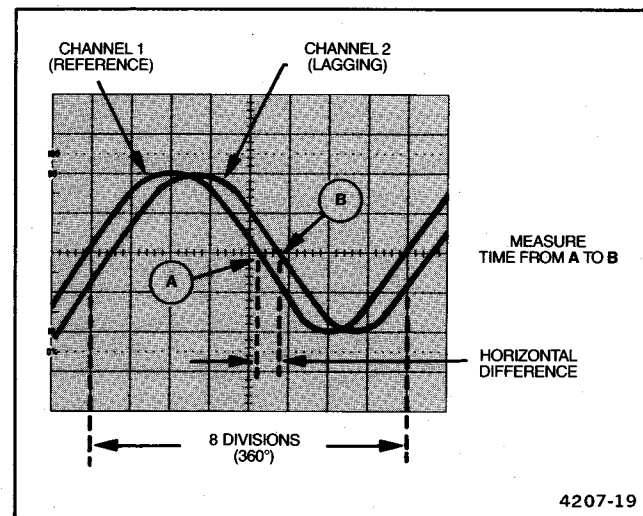
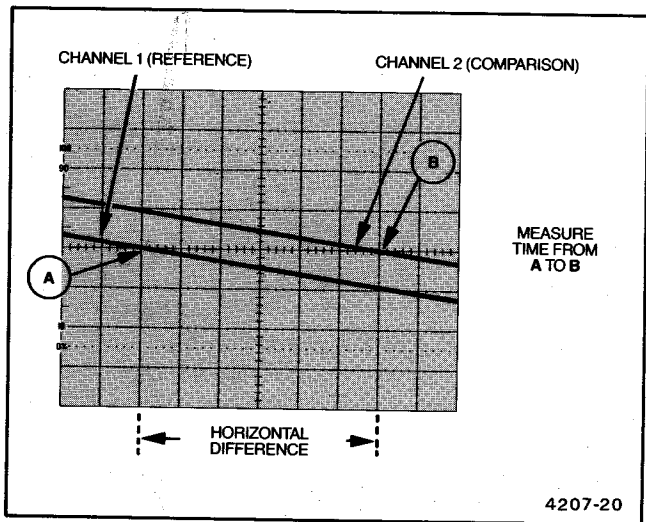

Figure 3-8. Phase difference.
Figure 3-9. High-resolution phase difference.
9. Position the displays and adjust the SEC/DIV variable (CAL) control so that one cycle of the reference signal occupies exactly eight horizontal graticule divisions at the 50% rise-time points (see Figure 3-8). Each horizontal division of the graticule now represents 45° of the cycle (360° divided by 8 divisions), and the horizontal graticule calibration can be stated as 45° per division.
EXAMPLE. In Figure 3-8, the horizontal difference is 0.6 division with a graticule calibration of 45° per division.
If the sweep speed were increased 10 times (MAG set to X10), the magnified horizontal graticule calibration then would be 4.5° per division ($45^\circ/\text{division}$ divided by 10). Figure 3-9 shows the same signals illustrated in Figure 3-8, but horizontally magnified by a factor of 10.
EXAMPLE. In Figure 3-9 the 10X magnified display results in a horizontal difference of six divisions between the two signals.